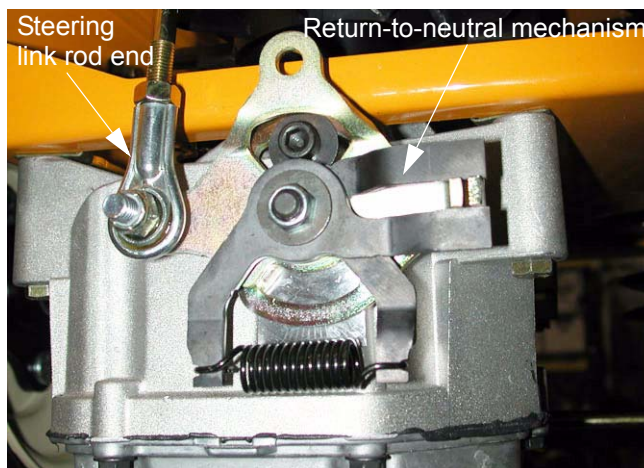

Figure 6.13
- 6.13. Using two 1/2" wrenches, remove the Nylock nut holding steering link rod end to the return-to-neutral mechanism. See Figure 6.13.